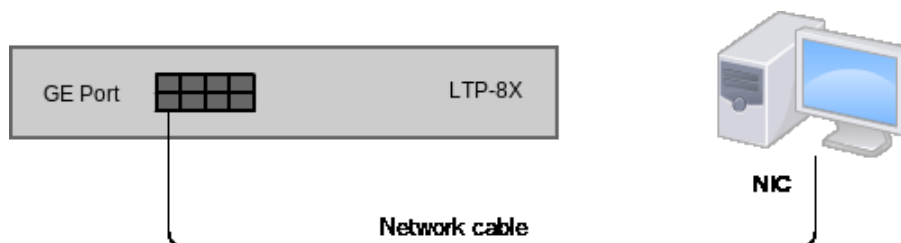

Fig. 8.2. Connecting the Terminal to a PC via Network Cable
Step 1. Connect one end of the network cable to any GE or Combo GE port of the terminal. Connect another end to the NIC on PC as shown in Fig. 8.2.